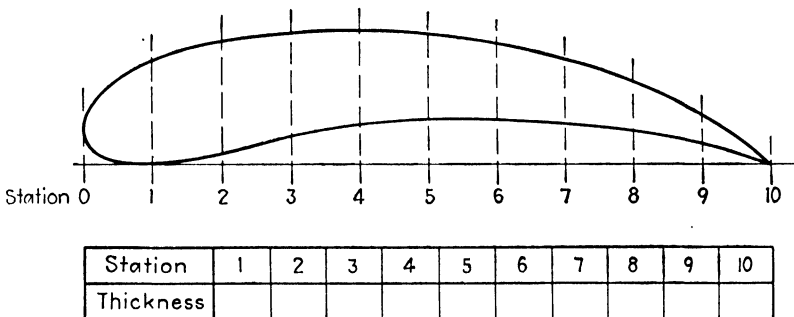

Fig. 9.—Airfoil section.
5. In aeronautics, the airfoil section is the outline of the wing rib of an airplane. Measure the thickness of the airfoil section at each station in Fig. 9, to the nearest 64th.
6. What is the distance between station 5 and station 9 (Fig. 9)?